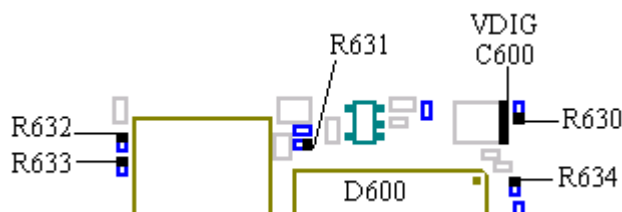

Fig. 7.5
Measure the VDIG voltage (fig. 7.5, ~3.2V).
- If the VDIG voltage is correct, check if there's voltage (~3.2V) at the marked sides of R630-R634 (fig. 7.5).